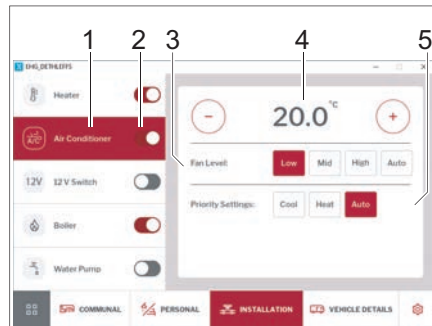

Fig. 262 Air conditioning unit
- Use the switch to turn the air conditioning unit (Fig. 262,2) on or off.
- Click on the *Air Conditioning Unit* (Fig. 262,1) button.
- Use the plus and minus buttons to select the desired living area temperature (Fig. 262,4).
- Set the desired prioritisation (cool/heat/auto) (Fig. 262,5).
- Selection ventilation level (Fig. 262,3).